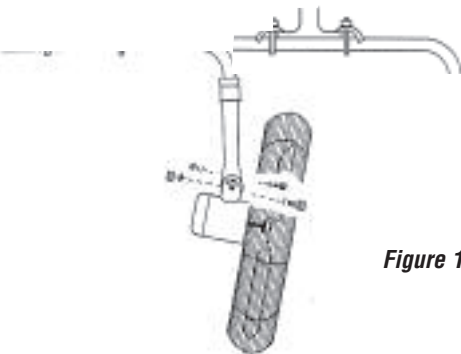

Figure 12
1. Place two U-bolt I-beam clamps on threaded pipe - Position threaded pipe on either horizontal or vertical I-beam and slide U-bolt firmly on I-beam and tighten securely to beam. (See fig. 12)
2. Screw mounting section securely onto threaded end of pipe (See fig. 12)